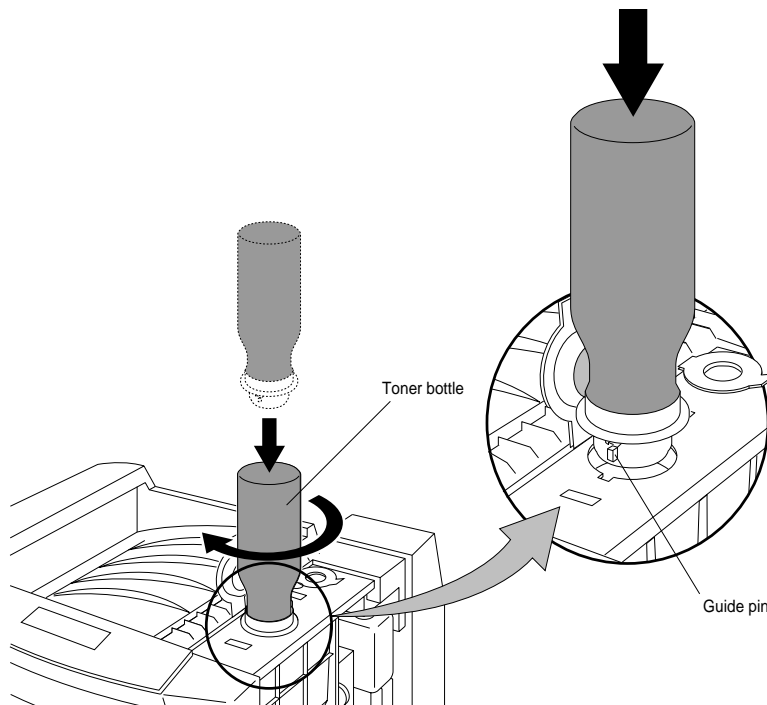

Figure 2-49 Filling the Toner
5. Line up the guide pins on the bottle with the guide pin openings on the toner fill. Insert and turn the toner bottle clockwise 180° to start filling. See Figure 2-49.